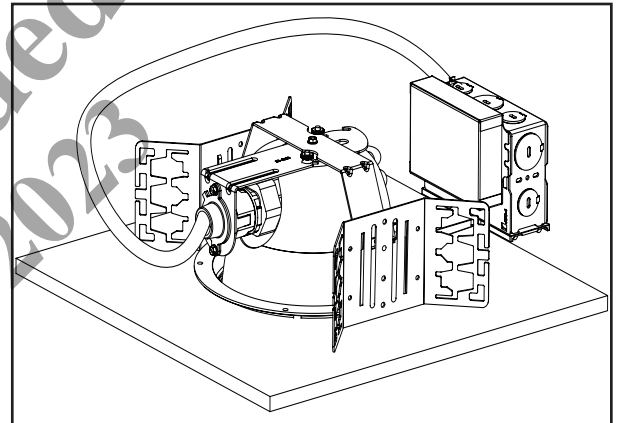

Figure 1.
2. Do not use this equipment for other than the intended use. (Figure 1.)